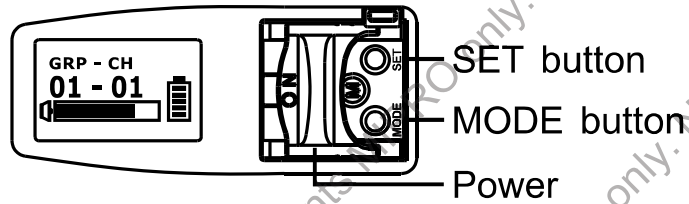

Fig. 3
- (A) Push the power switch upward to turn on. The LCD panel glows when power on. Push the power switch downward to turn off. Fig. 3, 4.
3. Press SET button, the parameter blinks, press SET button again to change the parameter. Fig. 3